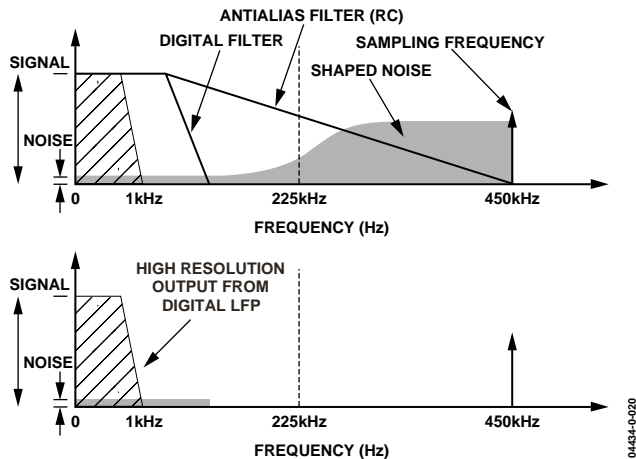
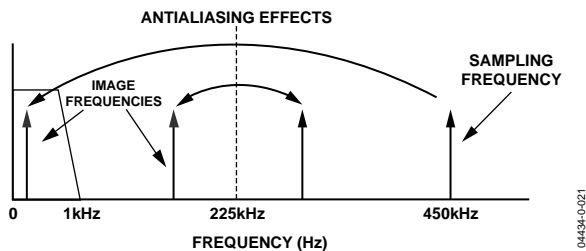

Figure 15. Noise Reduction Due to Oversampling and Noise Shaping in the Analog Modulator
Figure 16. ADC and Signal Processing in Current Channel or Voltage Channel
The Σ - Δ converter uses two techniques to achieve high resolution from what is essentially a 1-bit conversion technique. The first is oversampling, which means that the signal is sampled at a rate (frequency) that is many times higher than the bandwidth of interest. For example, the sampling rate in the ADE7760 is CLKIN (450 kHz) and the band of interest is 40 Hz to 1 kHz. Oversampling has the effect of spreading the quantization noise (noise due to sampling) over a wider bandwidth. With the noise spread more thinly over a wider bandwidth, the quantization noise in the band of interest is lowered (see Figure 15).
However, oversampling alone is not an efficient enough method to improve the signal-to-noise ratio (SNR) in the band of interest. For example, an oversampling ratio of 4 is required just to increase the SNR by only 6 dB (1 bit). To keep the oversampling ratio at a reasonable level, it is possible to shape the quantization noise so that the majority of the noise lies at the higher frequencies. This is what happens in the Σ - Δ modulator; the noise is shaped by the integrator, which has a high-pass type response for the quantization noise. The result is that most of the noise is at the higher frequencies where it can be removed by the digital low-pass filter. This noise shaping is also shown in Figure 15.
Figure 15 also shows an analog low-pass filter (RC) on input to the modulator. This filter is present to prevent aliasing. Aliasing is an artifact of all sampled systems, which means that frequency components in the input signal to the ADC that are higher than half the sampling rate of the ADC appear in the sampled signal frequency below half the sampling rate. Figure 16 illustrates the effect.
In Figure 16, frequency components (arrows shown in black) above half the sampling frequency (also known as the Nyquist frequency), that is, 225 kHz get imaged or folded back down below 225 kHz (arrows shown in gray). This happens with all ADCs no matter what the architecture. In the example shown, it can be seen that only frequencies near the sampling frequency (450 kHz) move into the band of interest for metering (40 Hz to 1 kHz). This fact allows the use of a very simple low-pass filter to attenuate these frequencies (near 250 kHz) and thereby prevent distortion in the band of interest. A simple RC filter (single pole) with a corner frequency of 10 kHz produces an attenuation of approximately 33 dB at 450 kHz (see Figure 16). This is sufficient to eliminate the effects of aliasing.